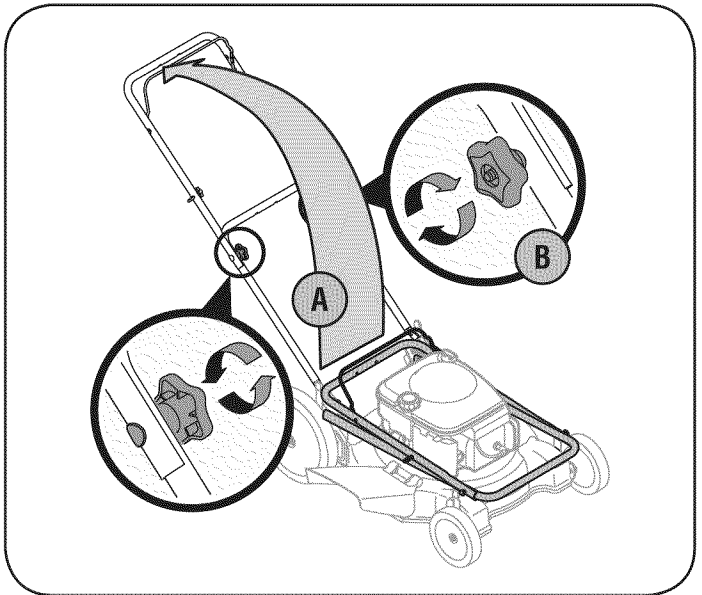

Figure 2
- A. Lift the upper handle up from folded position and pull it to extended position following the arrow in Figure 2. The handle should click into this position.